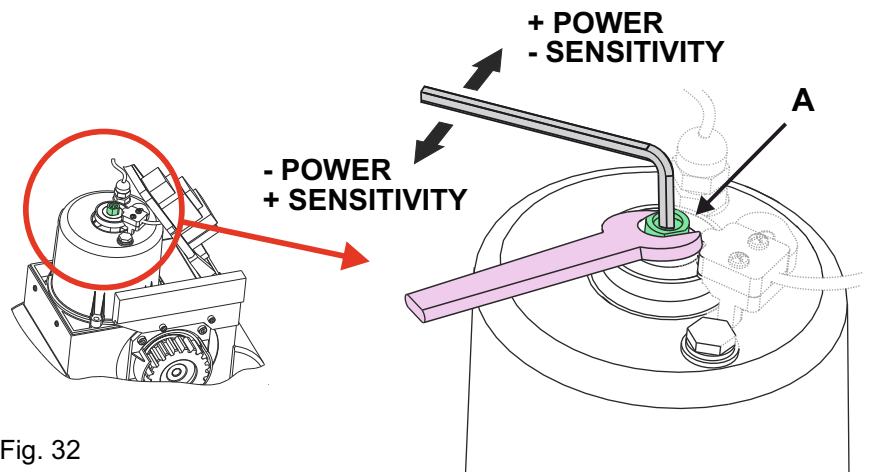

Fig. 32
**10.2.** To adjust the clutch, act on the grub screw «A» - Fig. 32 - as follows: